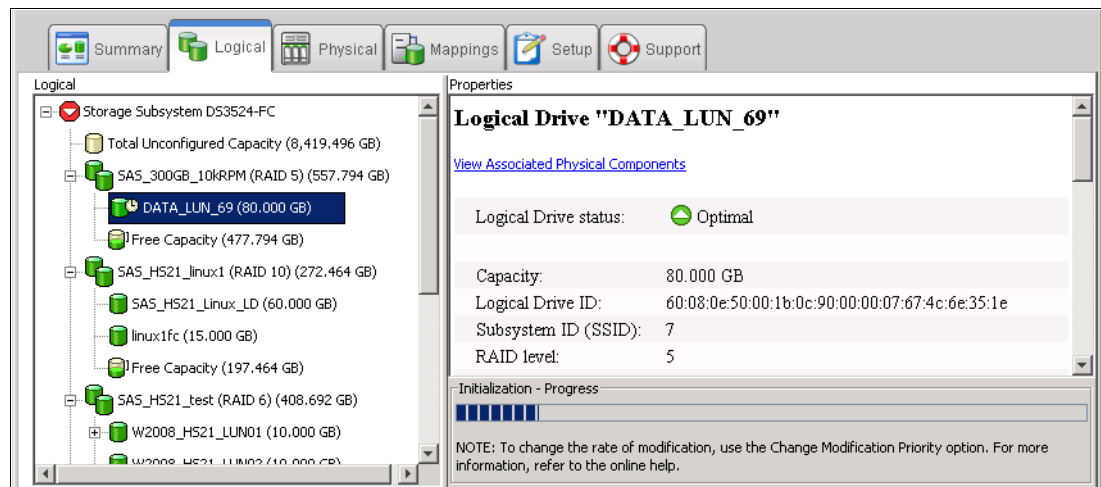

Figure 9-23 Logical drive formatted
8. The new logical drive will be formatted. In the Properties pane of Storage Manager you can check the progress of this operation (see Figure 9-23). The Logical Drive icon in the Logical pane is marked by clock symbol during this process.